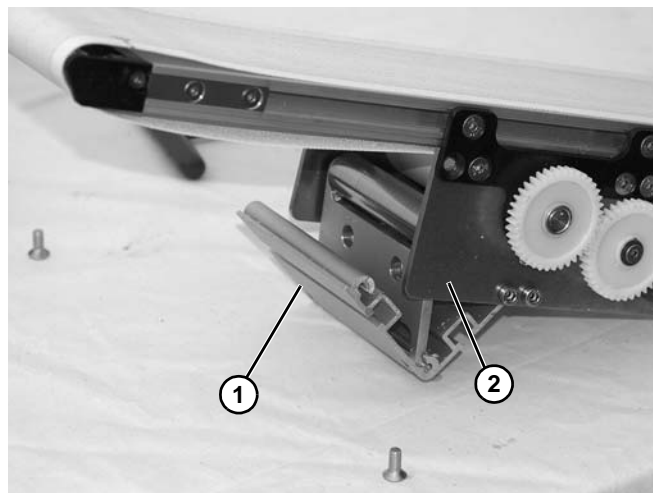

Figure 21
7. Rotate pinch drive guard (**Figure 21, item 1**) away from mid drive bracket (**Figure 21, item 2**).